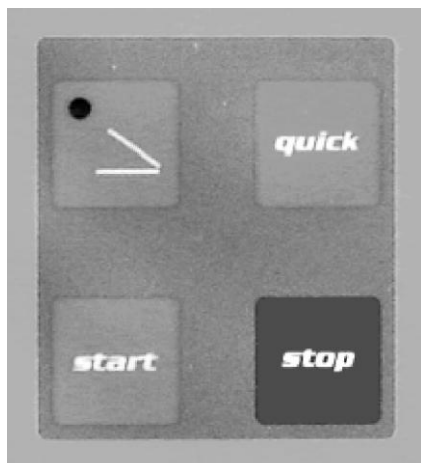

Figure 4
- The lid can then be opened (see Figure 4).